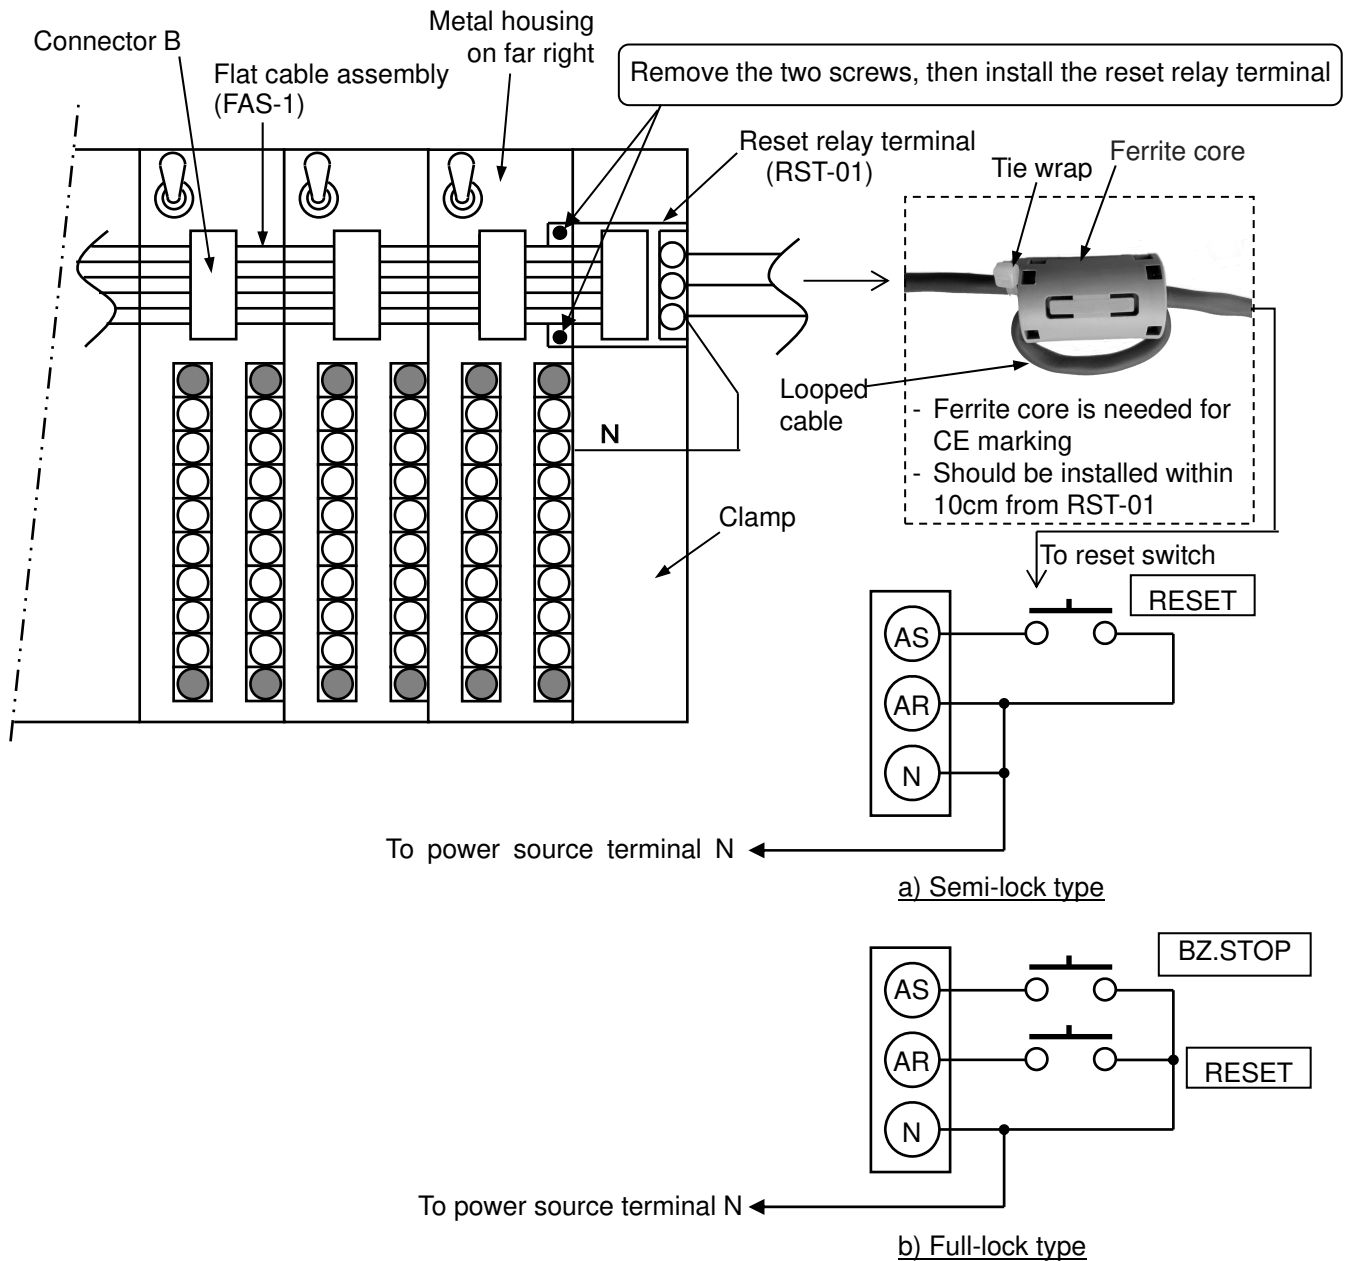

Figure 16. Wiring Connection for Cabinet Panel Reset Switch
- For the CE marking specification, add a ferrite core (provided with RST-01) to the cable by wrapping the cable around the ferrite core (one loop) and securing the core to the cable with a tie wrap as shown in Figure 16.